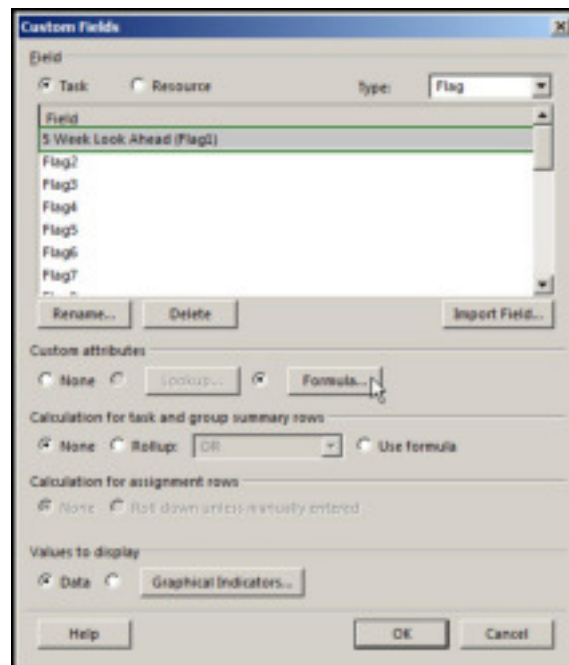

Figure 4
- C. Toggle Formula in the custom attributes, Figure 4.